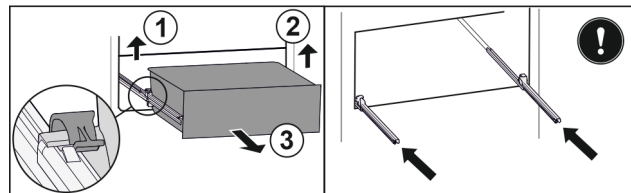

Fig. 80
- ▶ Lift left clamp and simultaneously pull drawer forwards on the left. Fig. 80 (1)
- ▶ Lift right clamp and simultaneously pull drawer forwards on the right. Fig. 80 (2)
- ▶ Remove drawer to the front. Fig. 80 (3)